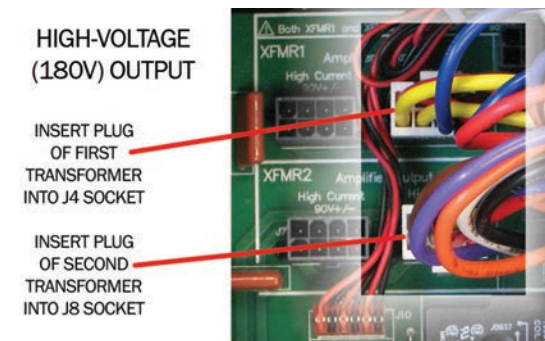

Figure 5.9 – J4 and J8 Plug Locations for High-Voltage Output
3. For High Voltage (180V) Output (see **Figure 5.9**).